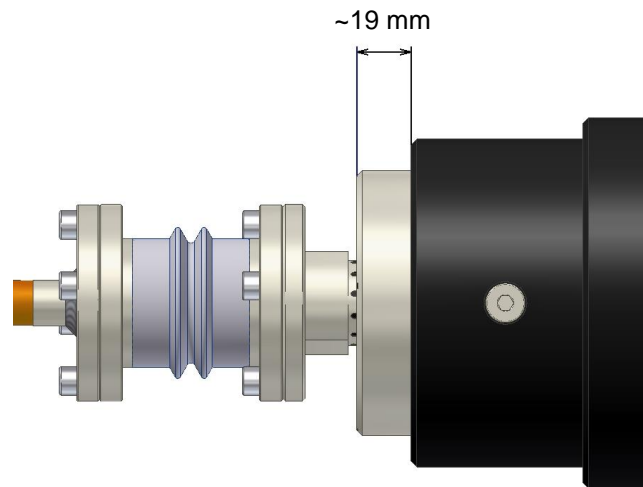

Figure 2; Torque Adjuster position when filling oil
2. Open the lock bolt (1022-01 pos. 6) and unlock the torque adjuster.
3. Turn the torque adjuster CCW until the 19 mm dimension is achieved (see figure 2).